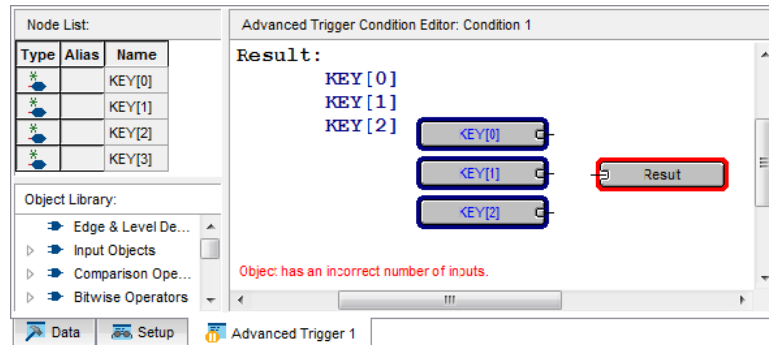

Figure 18. The three input nodes of interest dragged into the Advanced Trigger Editing Window.
4. In the node list section of this window, highlight the 3 nodes KEY[0] to KEY[2], and click and drag them into the white space of the Advanced trigger window, resulting in Figure 18. Note that you can also drag and drop each node individually.